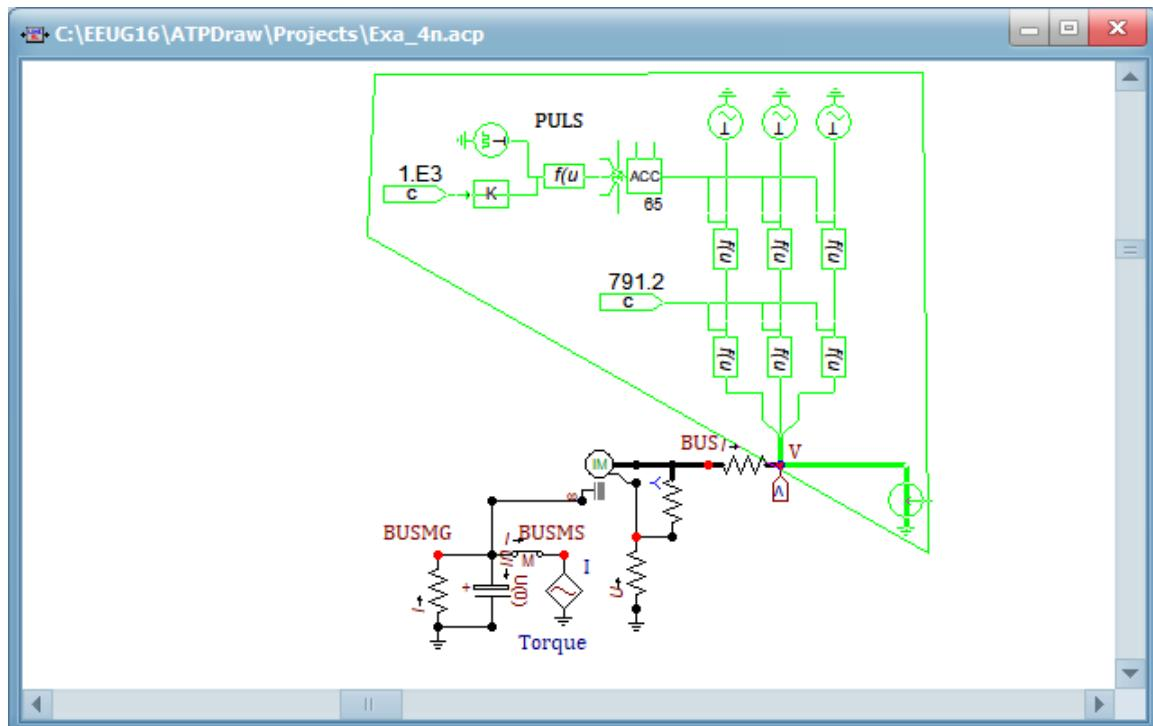

Fig. 5.1 - An induction machine supplied by a pulse width modulated voltage source.
- Select a group of components. Left click and hold to make a selection rectangle. Double left, left, left, and finally right click to create a polygon (as shown in Fig. 5.1).